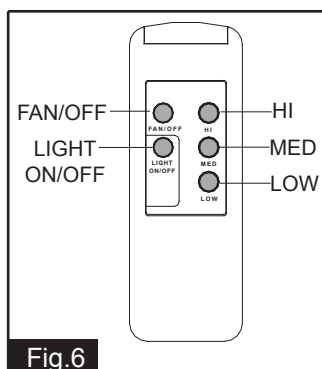

Fig.6
- 6.) Functions of Transmitter. (See Fig.6)